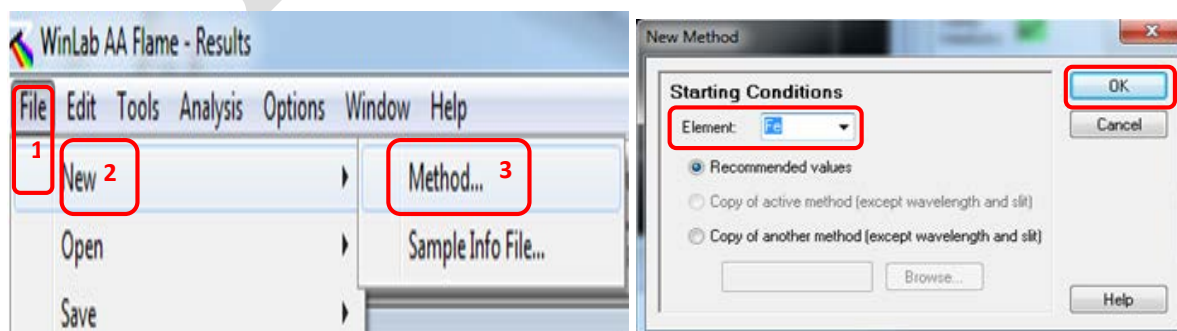

Fig. 15
3.2.2 Click on **file > new> method**, select element through the pull-down menu, and click OK (fig.15). Or **file > open> method** to open an existed method.